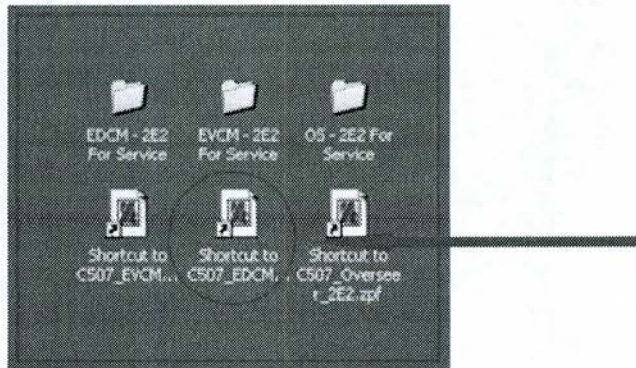

Figure 10
2.6. Double click the "EDCM 2E2" shortcut (arrow Figure 10) on the computer's desktop to open the calibration tool.